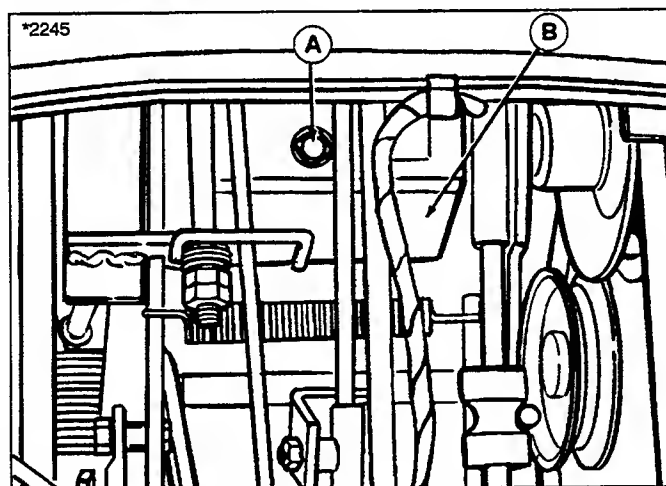

Figure 13. Bevel Gear Box
1. Remove the fill plug (A, figure 13) and wipe oil off attached pin.